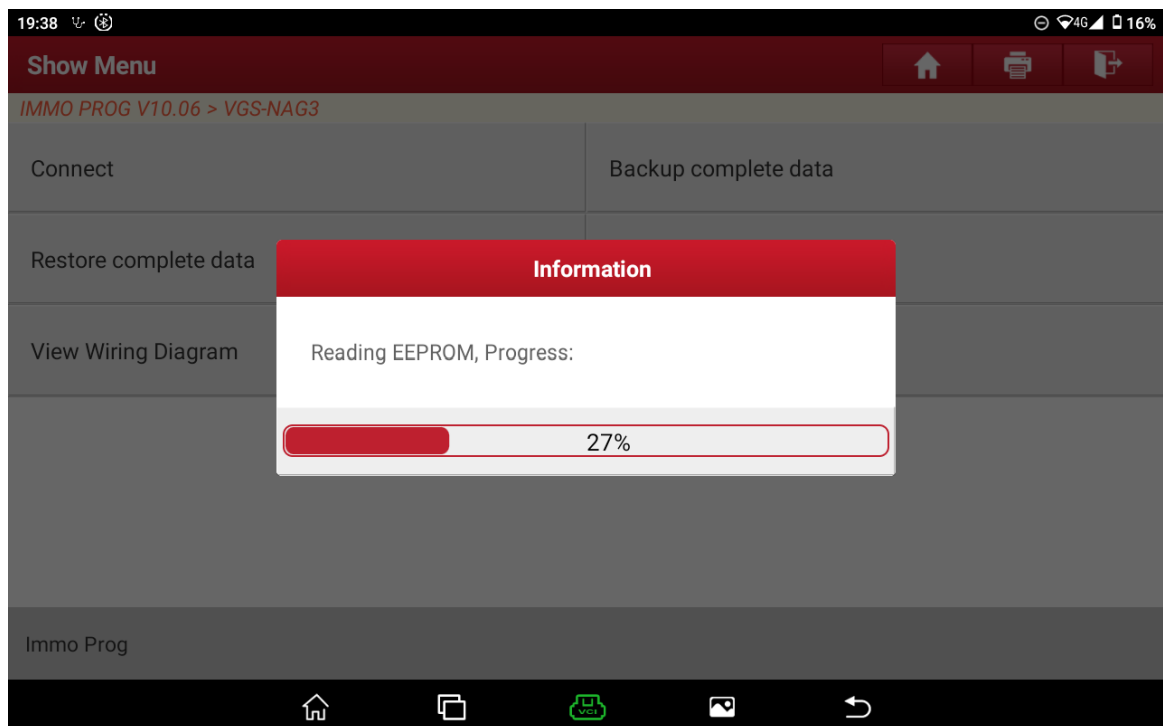
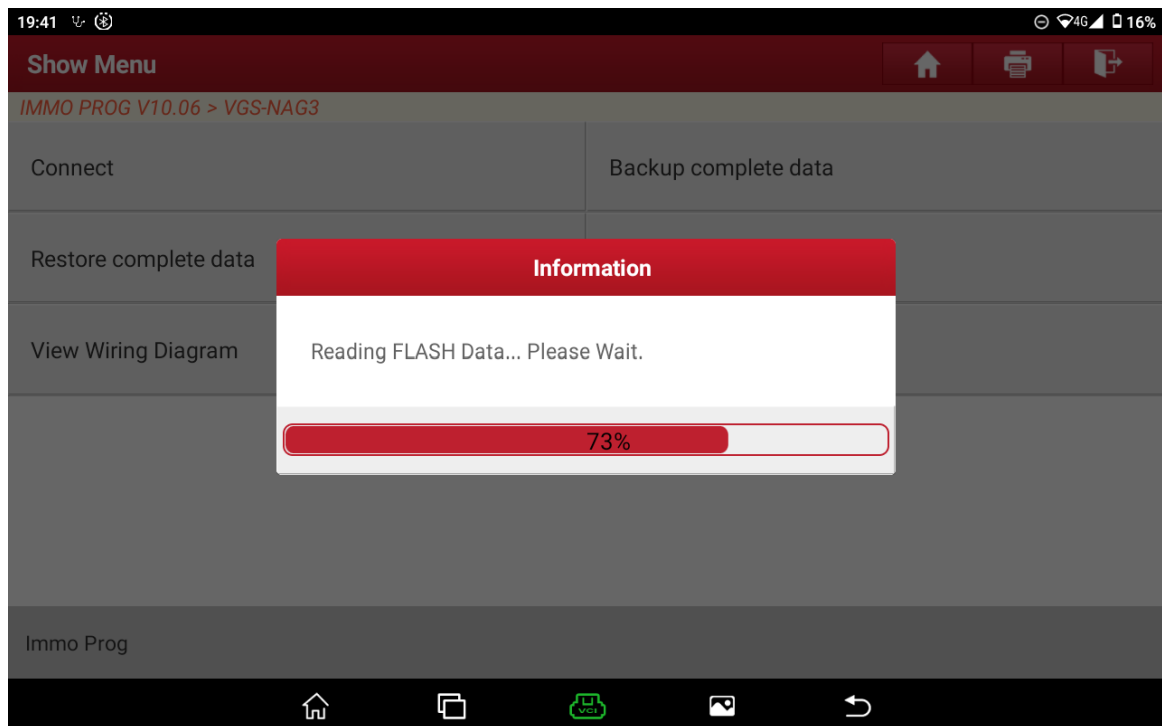
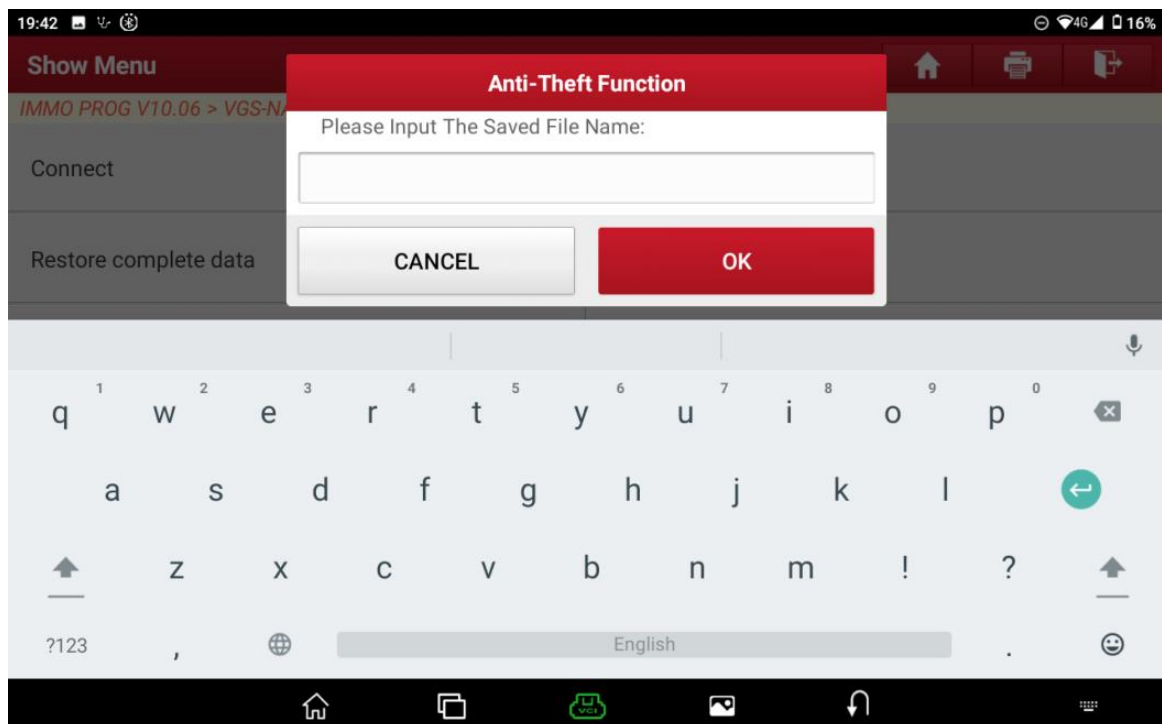
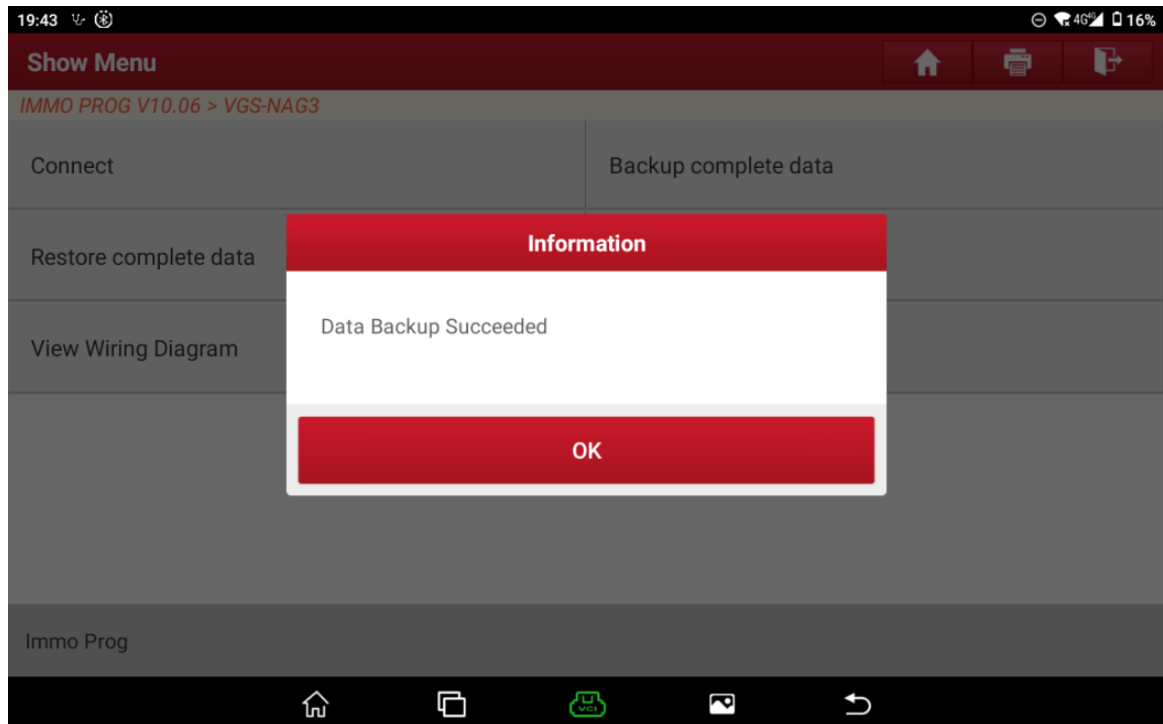

Figure 8
Figure 9
Figure 10
Figure 11
6. Click OK and then click [Backup complete data] (as shown in Figure 8 and Figure 9) to back up and save the internal data of the original car gearbox, as shown in Figure 10 and Figure 11.